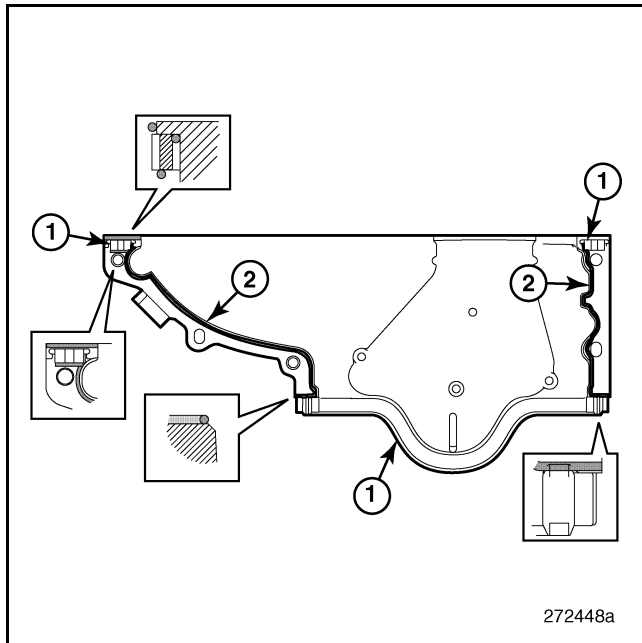

Figure 520 — Timing Cover Seals and Sealant Application
18. Apply a 2 mm (5/64 inch) bead of 342SX33 MACK-approved sealant on the timing gear cover mounting surface and install **new** rubber seals (Figure 520).